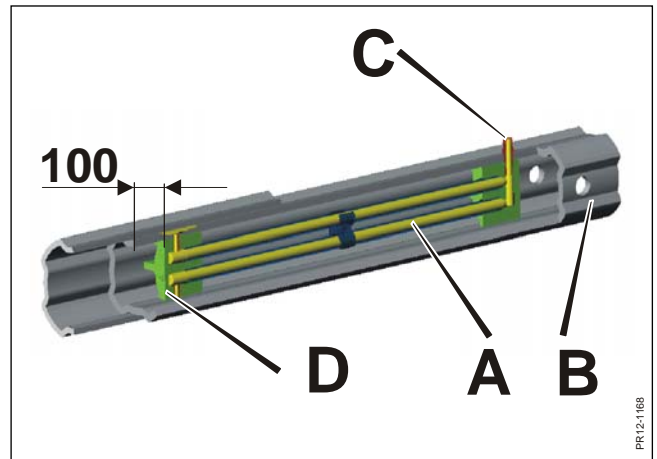

Fig. 2-10
**Fig. 2-10** The PTO shaft has an internal greasing system **A** which makes it possible to grease the profile tubes **B** at **C** without disassembling the shaft. Due to this greasing system you can shorten the shaft 100 mm maximum, which is the distance to the grease bush **D**.